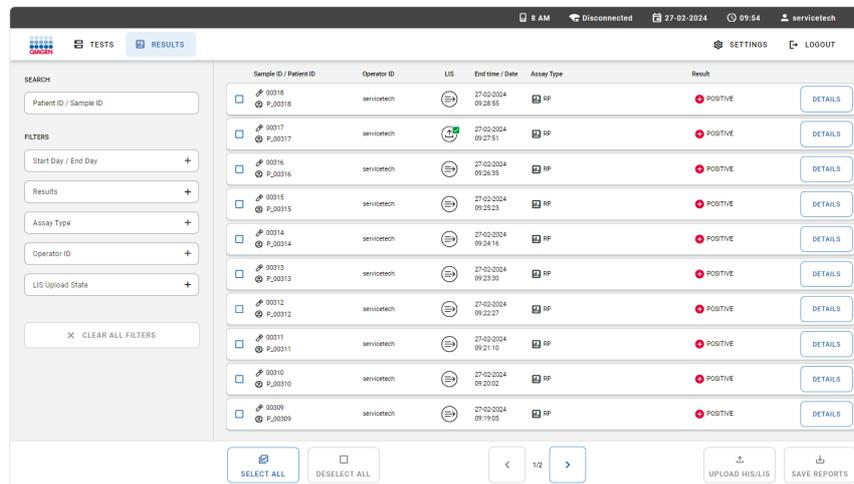

Figure 76. HIS/LIS Upload Status in the result overview.
2. In the result overview, the upload status is shown in the LIS column (Figure 76).